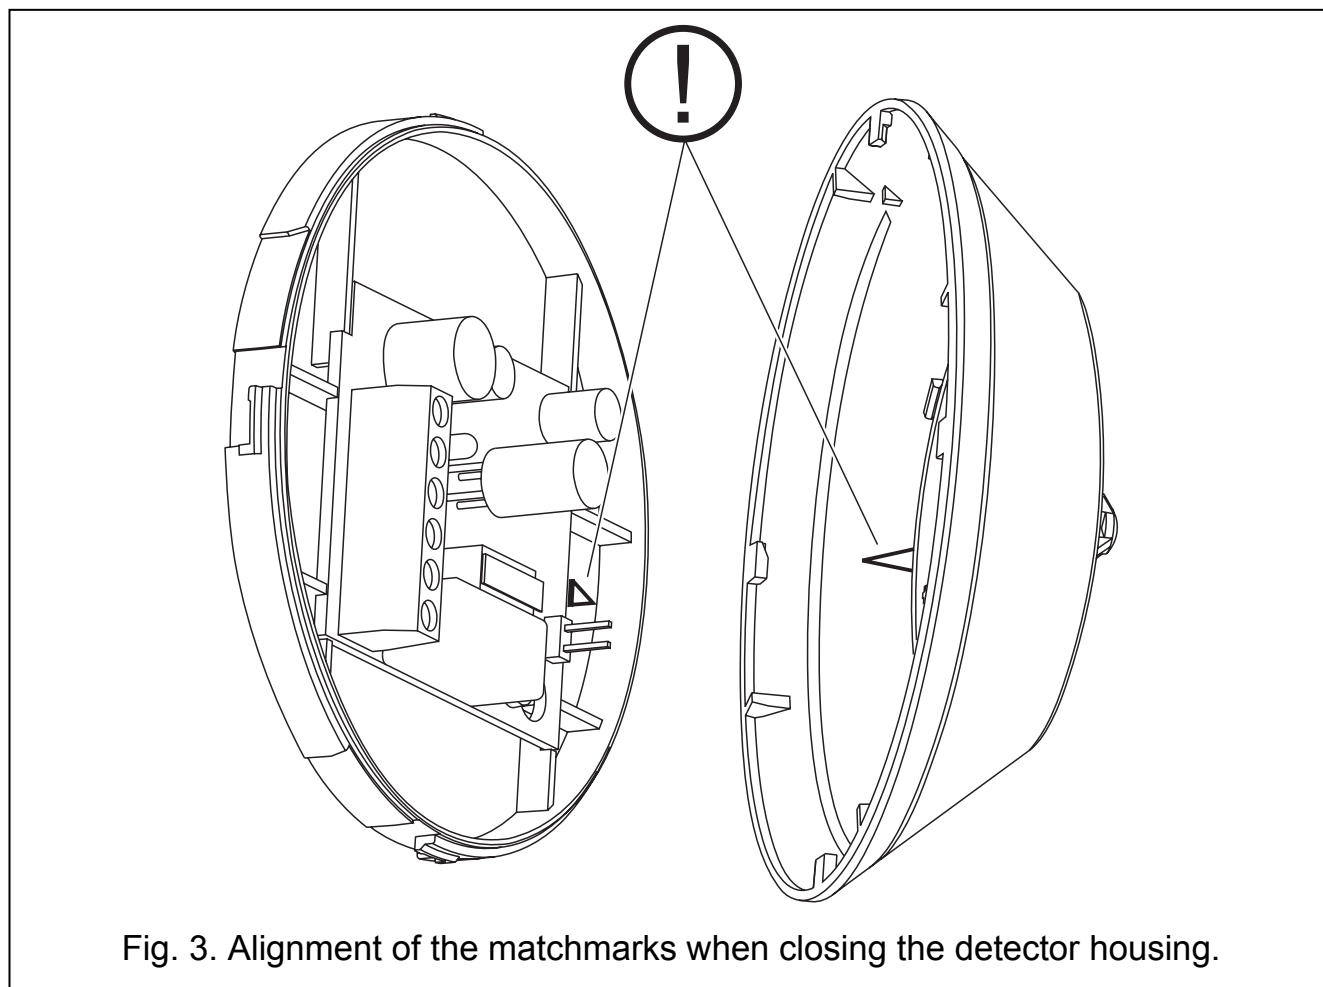

Fig. 3. Alignment of the matchmarks when closing the detector housing.
9. Close the detector housing, making sure that the matchmarks on the cover and on the rear housing panel are aligned (see Fig. 3).